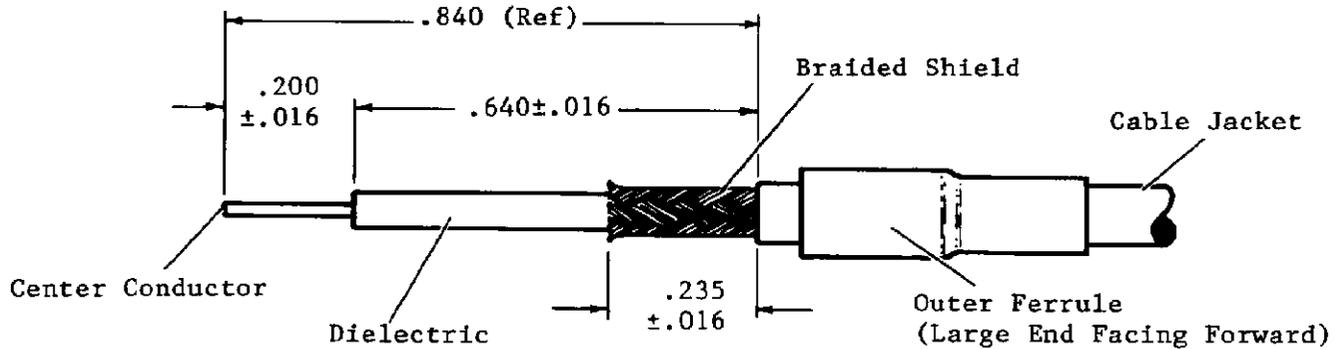

Fig. 4. Cable Strip Lengths
2. Strip the cable as shown in Figure 4.